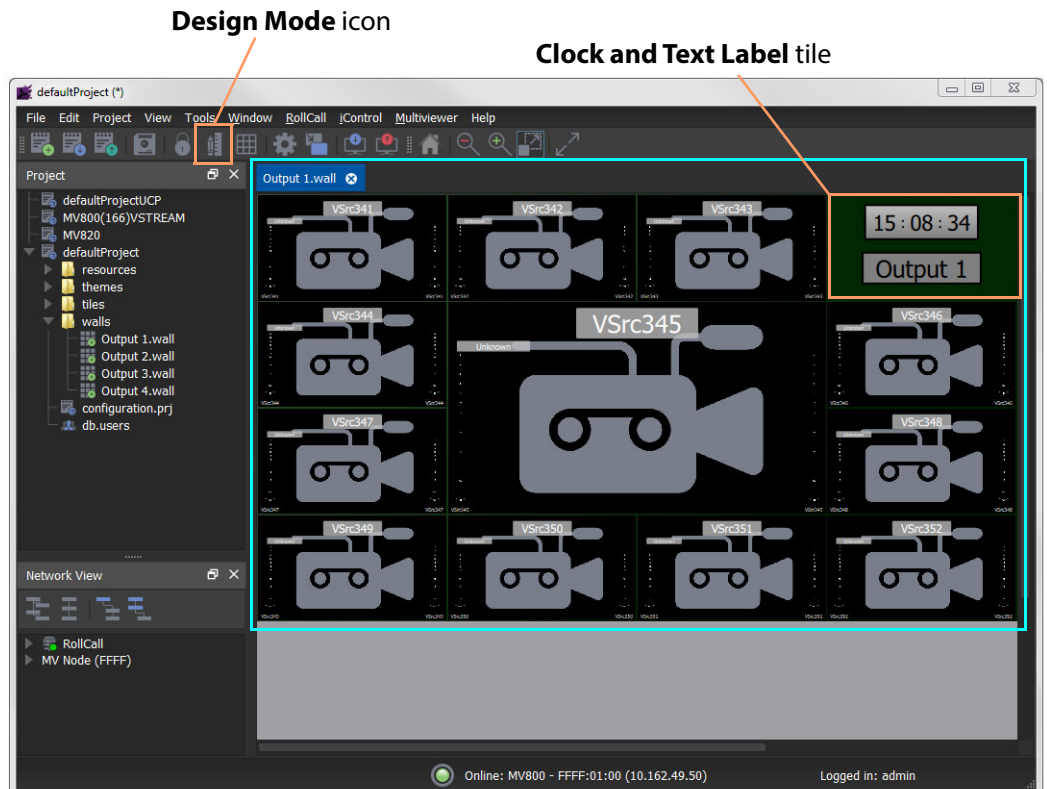

Fig. 8-17: Wall Editor in Run Mode
Figure 8-17 shows the Orbit **Wall Editor** in **Run Mode**. To perform edits to the multiviewer video wall, the **Wall Editor** must be in **Design Mode**.
- 2 Click the **Design Mode** icon in the main menu.(See Figure 8-17.)